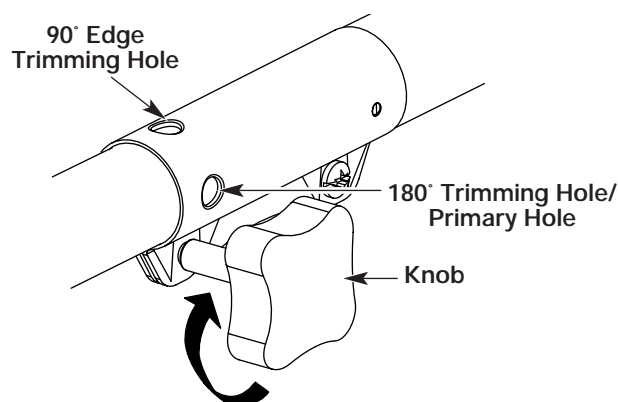

Fig. 8
3. Turn the knob clockwise to tighten (Fig. 8).
For decorative trimming/edging with the **line head cutting attachment**, lock the release button of the cutting attachment into the 90° hole or the 180° hole (Fig. 8).
For edging with the **edger add-on**, lock the release button of the cutting attachment **only** into the 180° trimming hole/ primary hole (Fig. 8).